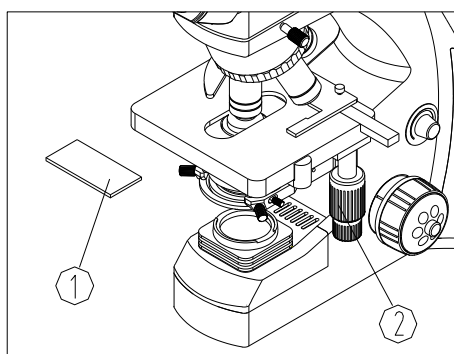

Fig. 17
3.2.2 Placing the Specimen (Fig.17)